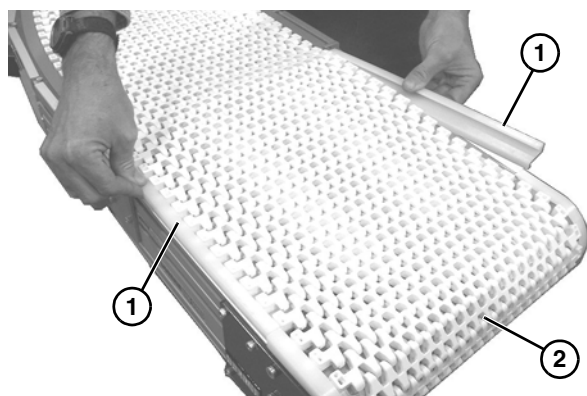

Figure 16
10. Slide the top wear strips (**Figure 16, item 1**) with wide lip facing up, under the conveyor belt (**Figure 16, item 2**) catching the bottom lip on conveyor frame, to cover the belt tabs.